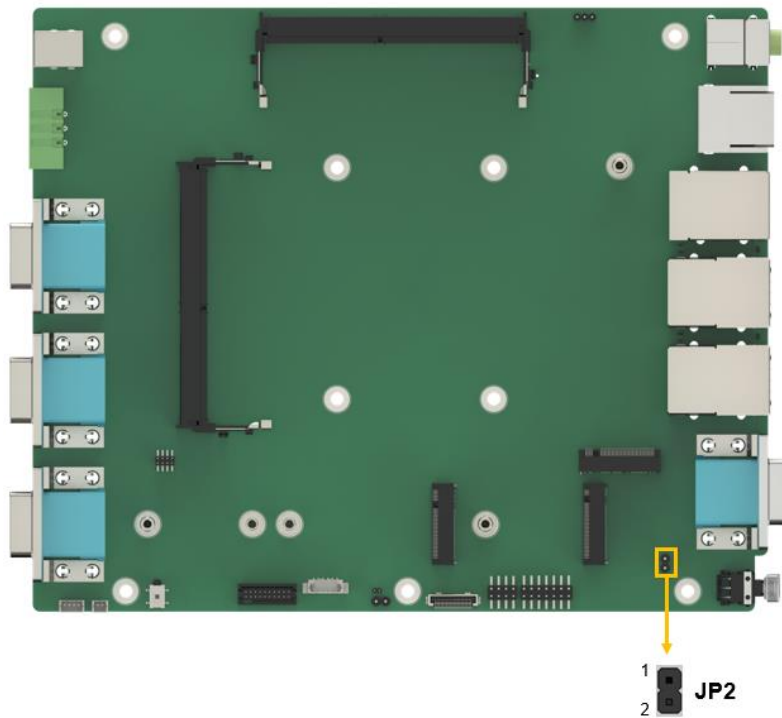

Figure 4-15: HDD LED Connector Location
- CN Location:** See Figure 4-15